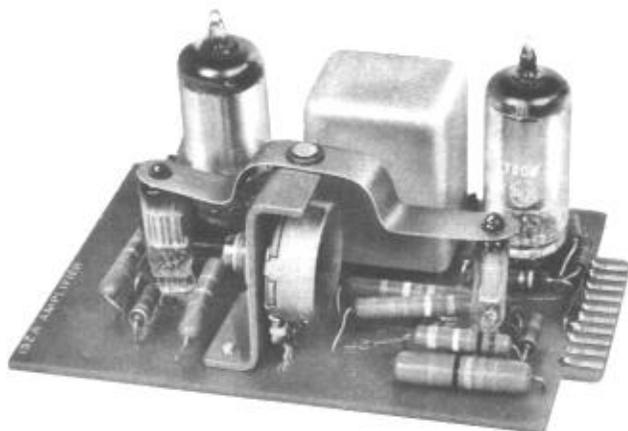
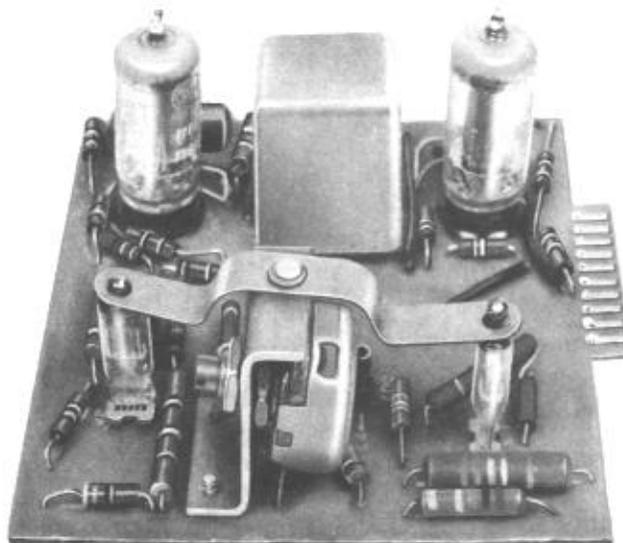

Fig. 1 - 152A Amplifier - Early Type
Fig. 2 - 152A Amplifier - Later Type
- On early type sets the amplifier will be similar to that shown in Fig. 1 but will not have a code number stamped on the card. (See Fig. 6 for circuit schematic.)
- On standards sets initial production will be equipped with the type amplifier shown in Fig. 1. The card will be stamped as shown. (See Fig. 7 for circuit schematic.) Later production sets will be equipped with the type amplifier shown in Fig. 2. The center of the card will be stamped 152A AMPLIFIER. (See Fig. 8 for circuit schematic.)